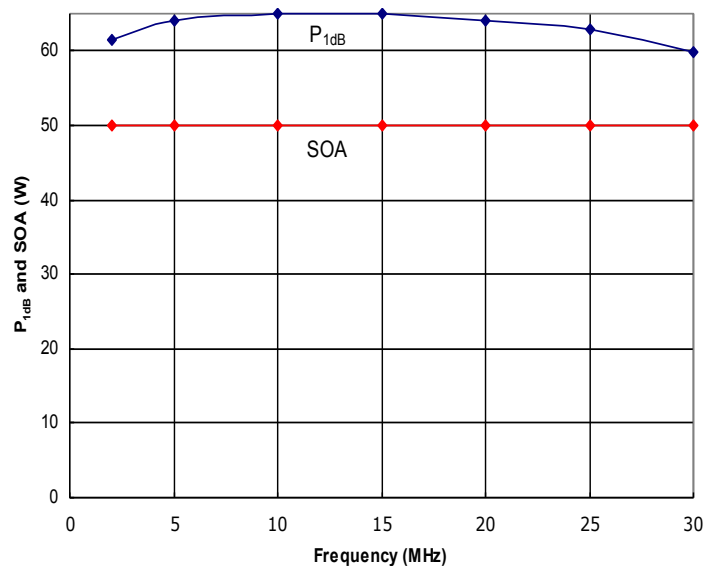

Figure 4: HD30717 Typical P_{1dB} and Safe Operating Area (SOA).
- 5) Apply RF drive to achieve desired output level. Ensure that the Safe Operating Area (SOA) power level indicated in Figure 4 is not exceeded, or amplifier damage may occur, and will void the warranty.